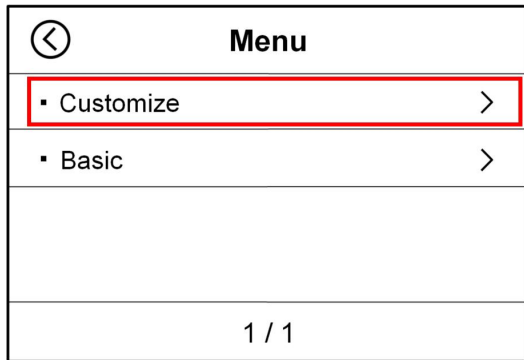

Figure 39
1) Press the “” key to enter the main interface of **MENU**, as shown in Figure 39 below, Press “**Customize**” to enter into Customize Settings, as Figure 40.